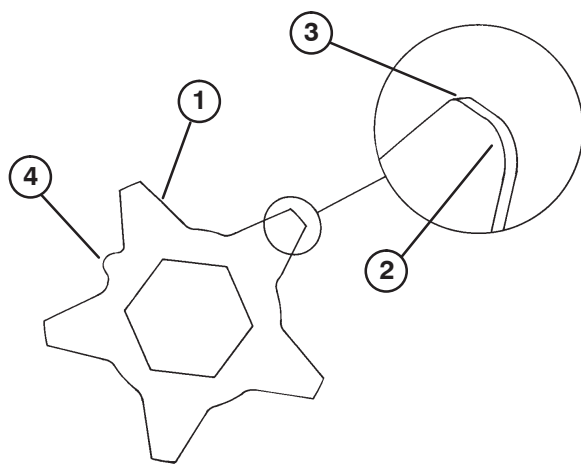

Figure 15
4. Assemble the shaft in reverse order. Using the location marks on each blade as a guide, assemble each blade so the location mark is offset one flat on the hexagonal shaft (Fig. 15).